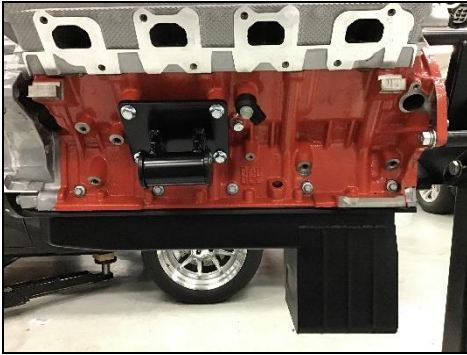

Figure 1
2. Attach the Hooker engine mounting brackets to the GEN3 HEMI using (x4) of the supplied M10 bolts. Start with the driver's side mount. The driver's side mount can be identified by a U notch in the base plate. The U notch will face downward when installed (**Figure 1**).